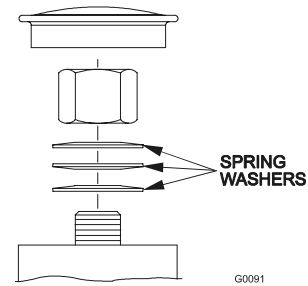

FIGURE 11
- a) Remove dust cap from caster and tighten nyloc nut until washers are flat and back off 1/4 of a turn to properly set the pre-load on the bearings. If disassembled make sure the spring washers are reinstalled as shown in Figure 11.